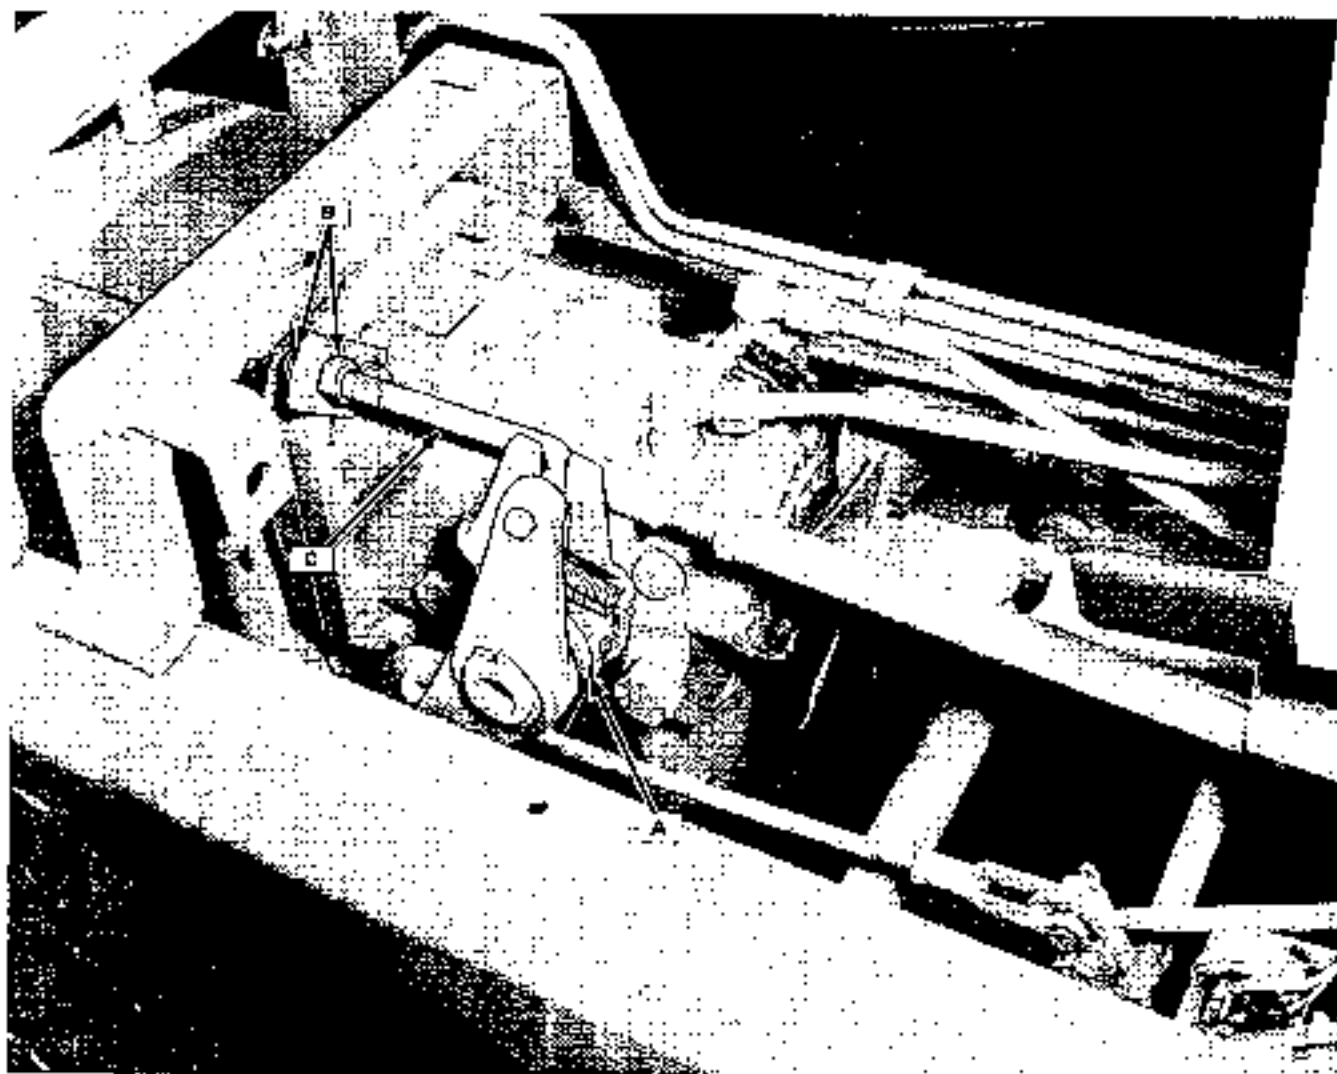

FIGURE 3-12
7. Drive out roll pin (Reference "A" fig. 3-12) holding linkage to control shaft. Remove linkage as an assembly.
18. Securely block up rear of tractor. Make sure free wheeling valve is closed. Place travel pedal into the neutral position. Start the engine and release the brakes. If rear wheels creep forward, loosen nuts (Reference "B" fig. 3-12) and shorten rod (Reference "C") until wheels stop creeping. If rear wheels creep backward lengthen rod (Reference "C") until wheels stop creeping. Retighten nuts (Reference "B").